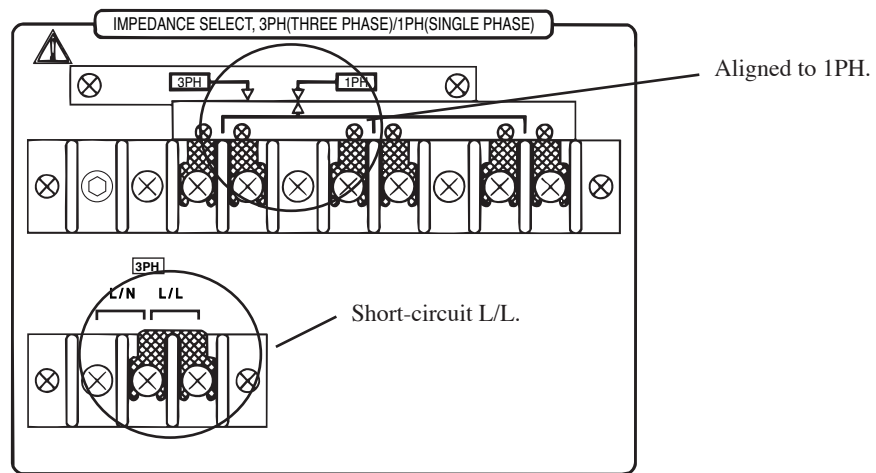

Fig.2-1 Single-Phase Circuit Settings
2. Make sure that terminal board connection is made as shown in Fig. 2-1. If it is not made as shown, make connection again. The short bar can be removed upward by releasing the screw of the terminal board. Move it to the specified position and then fasten the screw securely.